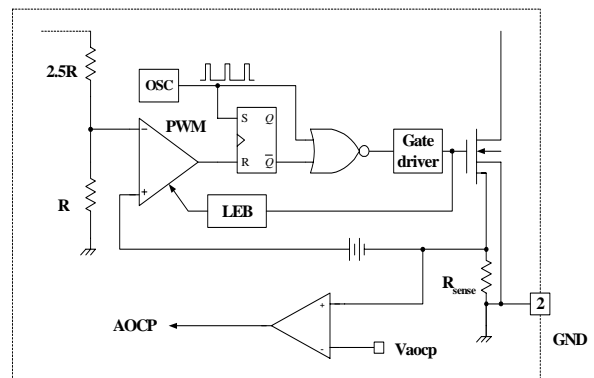

Figure 8. AOCP block
**3.2 Abnormal Over Current Protection (AOCP) :** Even though the FPS™ has OLP (Over Load Protection) and current mode PWM feedback, these are not enough to protect the FPS™ when a secondary side diode short or a transformer pin short occurs. The FPS™ has an internal AOCP (Abnormal Over Current Protection) circuit as shown in figure 8. When the gate turn-on signal is applied to the power Sense FET, the AOCP block is enabled and monitors the current through the sensing resistor. The voltage across the resistor is then compared with a preset AOCP level. If the sensing resistor voltage is greater than the AOCP level for longer than 300ns, the reset signal is applied to the latch, resulting in the shutdown of SMPS.